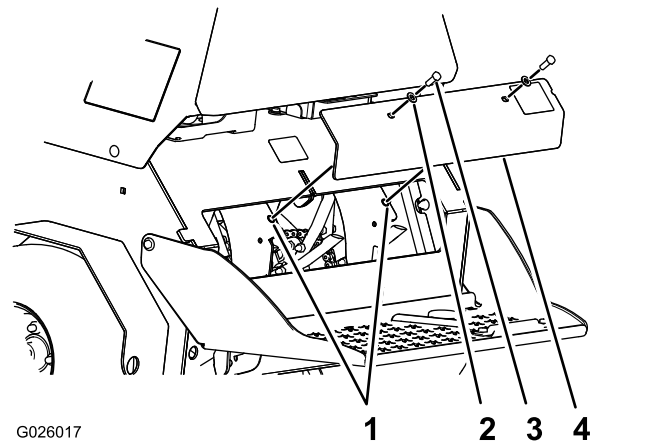

Figure 74
3. Remove the 2 bolts (3/8 x 1 inch) and 2 washers (3/8 inch) that secure the rear-cover panel to the chassis, and remove the panel (Figure 74).
6. Align the holes in the rear-cover panel to the holes in the chassis (Figure 74).
7. Secure the cover panel to the chassis with the 2 bolts and 2 washers (Figure 74) that you removed in step 3, and torque the bolts to 37 to 45 N·m (27 to 33 in-lb)